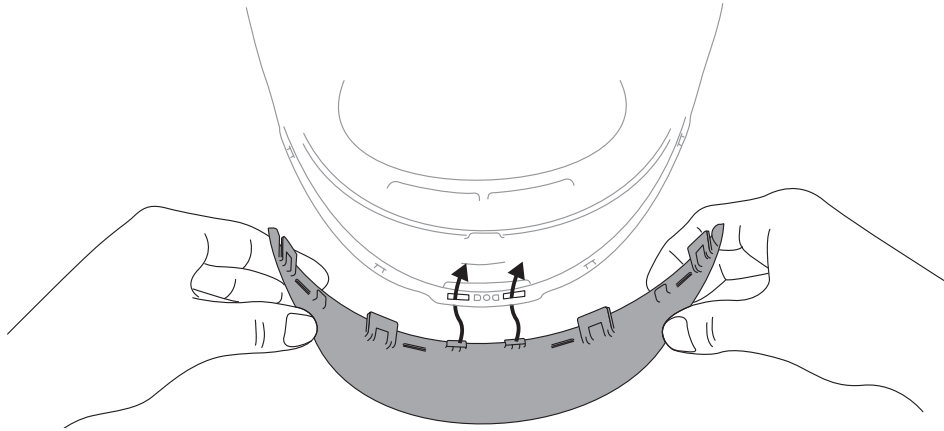
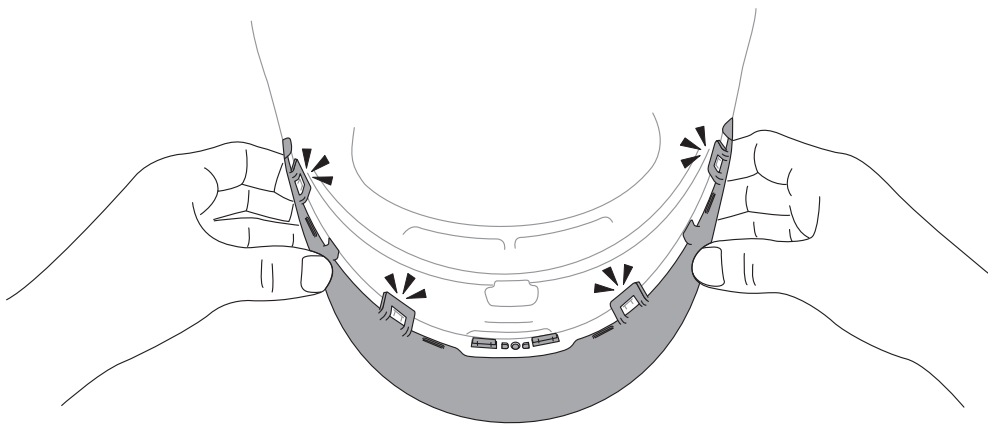
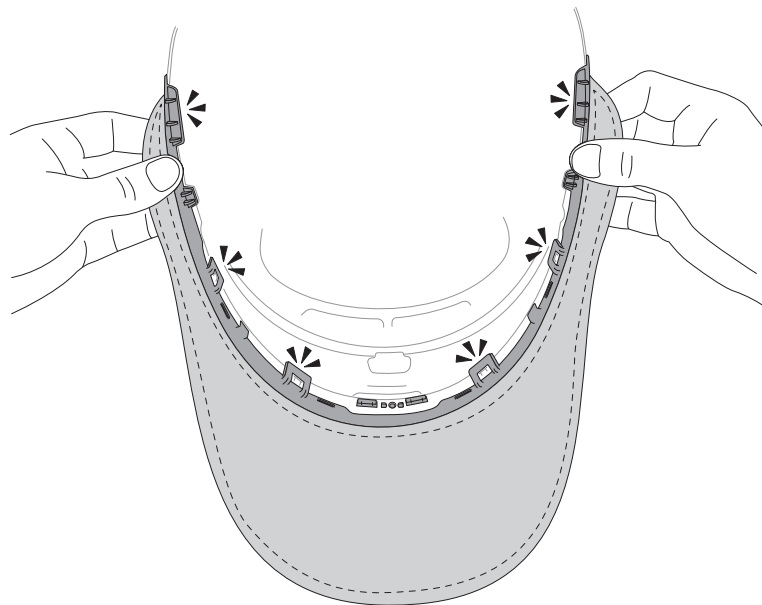

Fig. 19b
Fig. 19c
Fig. 19d
- c. To reinstall the ridged neck cover, first line up to the two small inserts at the center of the neck cover. Next, align the 4 clips along the underside of the neck cover and slide the rigid plastic neck cover into place. Four audible “clicks” are heard. The neck cover is now properly installed (Fig. 19b and 19c).
- d. The fabric or leather neck cover has an extra set of retention clips at the far outer edge. To install the fabric or leather neck cover, line up to the two small inserts at the center of the neck cover as in Fig. 19b. Then click into place the 4 latches as in Fig. 19c and the extra outer clips (Fig. 19d).